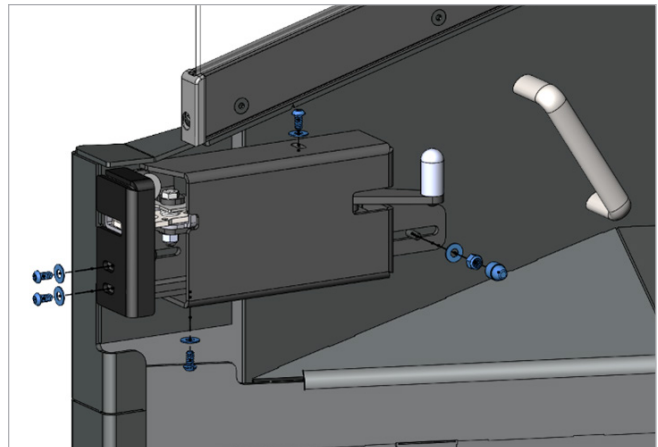

Figure 1 – Nut cover, nut, washer, and button head screw locations.
2. Locate the hardware removed in step 3 of latch cover removal. Using the T27 Torx bit w/security pin, install the button head screws and washers. Apply Loctite 263 and torque to 75 in-lbs. See **Figure 1** for screw and washer locations.
3. Locate the hardware removed in step 2 of latch cover removal. Using the 7/16 in. wrench, install the washer and nut, tightening to a final torque of 75 in-lbs. See **Figure 1** for nut and washer location.
4. Locate the hardware removed in step 1 of latch cover removal. Reinstall the plastic nut cover. See **Figure 1** for nut cover location.